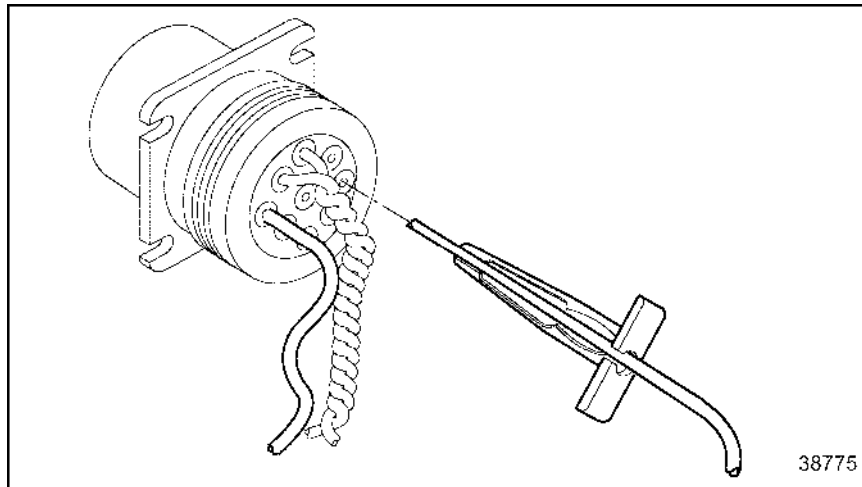

Figure 3-50 Removal Tool Insertion
2. Slide the tool along the cable into the insert cavity until it engages and resistance is felt. Do not twist or insert tool at an angle. See Figure 3-50.